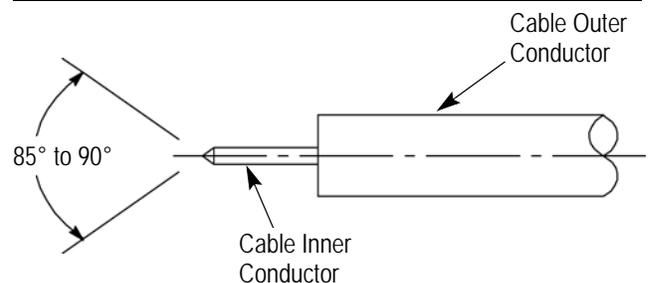

Figure 4
- Shape the blunt end of the inner conductor to an 85° to 90° cone as shown in Figure 4.